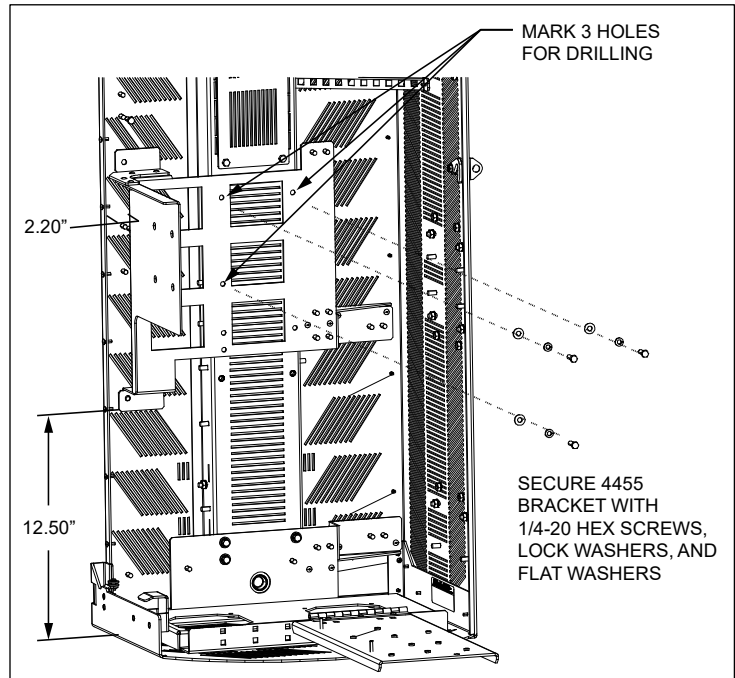

Figure 6 4455 Mounting Bracket
1. Position the 4455 mounting bracket as shown in Figure 6 (12.50" from the bottom of the SHRD60, 2.20" from the left side flange).
2. Mark the locations of the three holes indicated in Figure 6